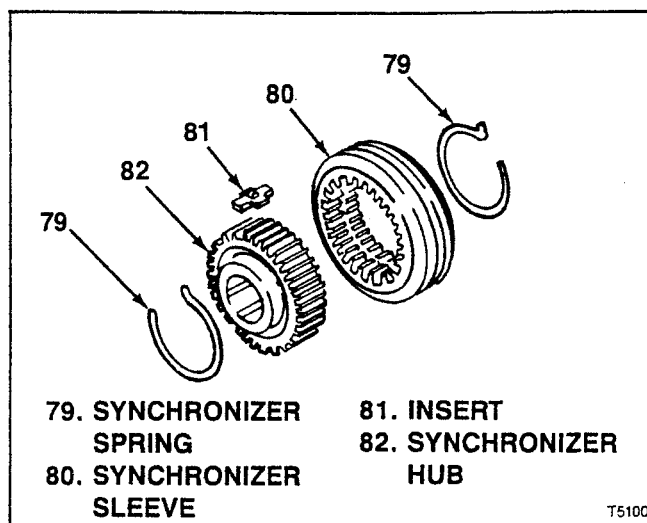
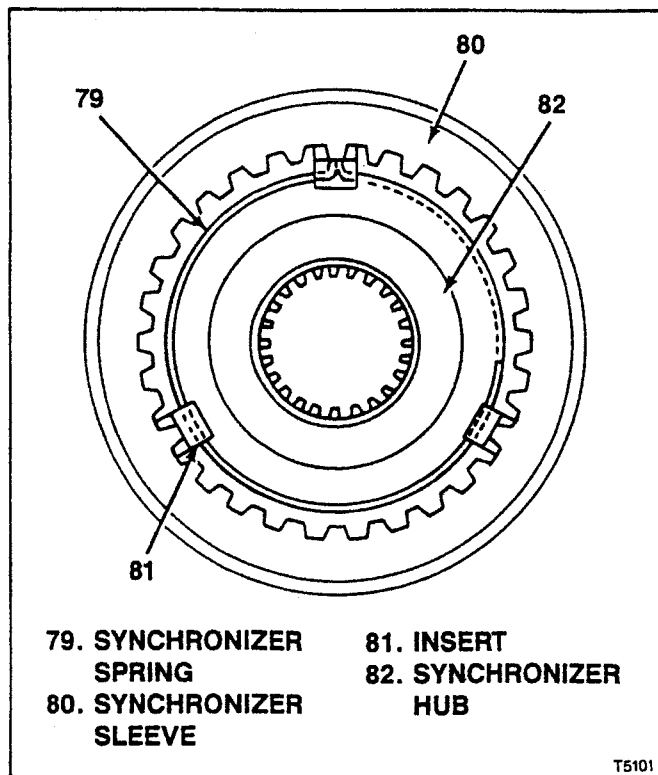
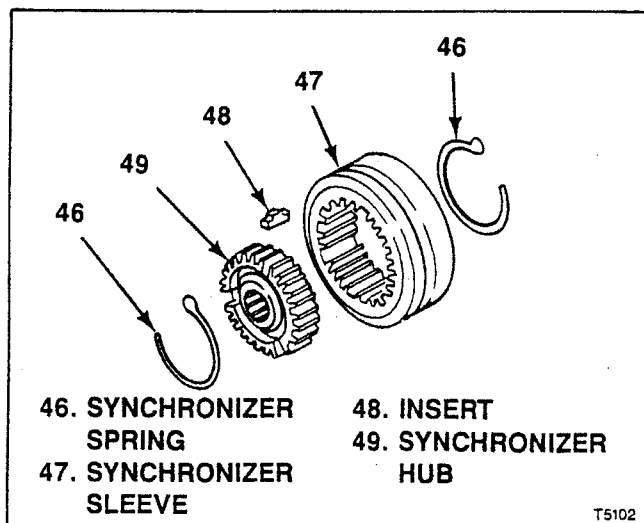
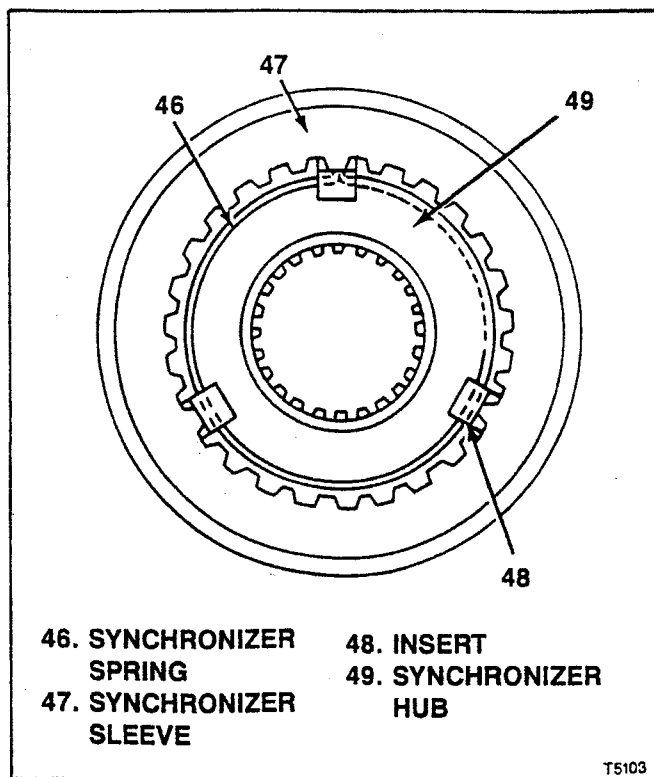

Figure 6-1. T5 WC 3rd-4th Synchronizer Assembly
Figure 6-2. T5 WC 3rd-4th Synchronizer Assembled
Figure 6-4. T5 WC 5th Synchronizer Assembled
Figure 6-3. T5 WC 5th Synchronizer Assembly
- Bearing cone (64)
- Thrust bearing (68)
- Bearing cone (72)
- Needle bearing (84)
- 2nd speed bearing (89)
- Bearing cones (115)
6-6. ASSEMBLY OF T5 WC 3RD-4TH SYNCHRONIZER ASSEMBLY (see figure 6-1). Be sure to assemble sleeve (80) and hub (82) aligning marks made at disassembly (see figure 6-2) so that clutch teeth and part faces are assembled exactly as they were originally. Assemble as follows:
a. Start sleeve (80) onto hub (82) to a position that will just permit installation of inserts (81). Install inserts (81) then engage clutch teeth fully.
b. Hook one end of one spring (79) under one of the inserts (81) and wrap around inside, under all three inserts. Hook other end of spring under insert (see figure 6-2).
c. Invert assembly. Hook remaining spring (79) under opposite end and side of same insert (81) where step b was started but wrap around inside in opposite direction from step b, under all three plates. Hook other end of spring under insert (81) (see figure 6-2).
d. Position sleeve (80) and inserts (81) so that all inserts snap into neutral position.
6-7. ASSEMBLY OF T5 WC 5TH SYNCHRONIZER ASSEMBLY (see figure 6-3). Be sure to assemble sleeve (47) and hub (49) aligning marks made at disassembly (see figure 6-4) so that clutch teeth and part faces are assembled exactly as they were originally. Assemble as follows:
- Start sleeve (47) onto hub (49) to a position that will just permit installation of inserts (48). Install inserts (48) then engage clutch teeth fully.
- Hook one end of one spring (46) under one of the inserts (48) and wrap around inside, under all three inserts. Hook other end of spring under insert (see figure 6-4).
- Invert assembly. Hook remaining spring (46) under opposite end and side of same insert (48) where step b was started but wrap around inside in opposite direction from step b, under all three plates. Hook other end of spring under insert (48) (see figure 6-4).
- Position sleeve (47) and inserts (48) so that all inserts snap into neutral position.